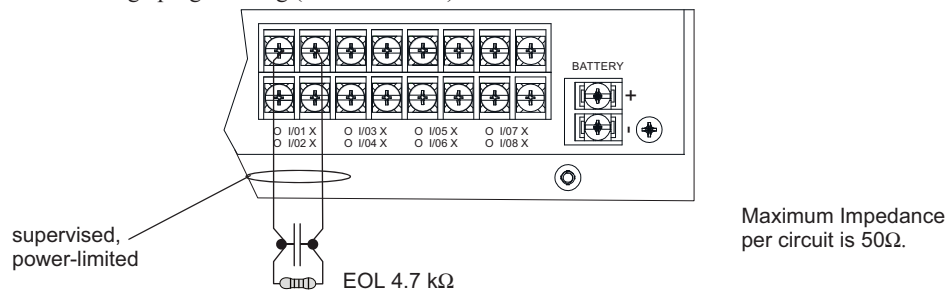

Figure 4.48 Class B Input Switches
1. Wire the Class B switch as shown in Figure 4.48.